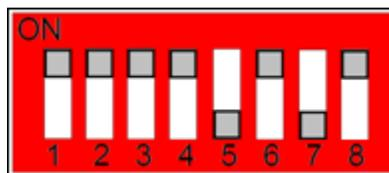

Figure 24: Settings for DIP Switches
11. Set the DIP switches as shown in Figure 24. .